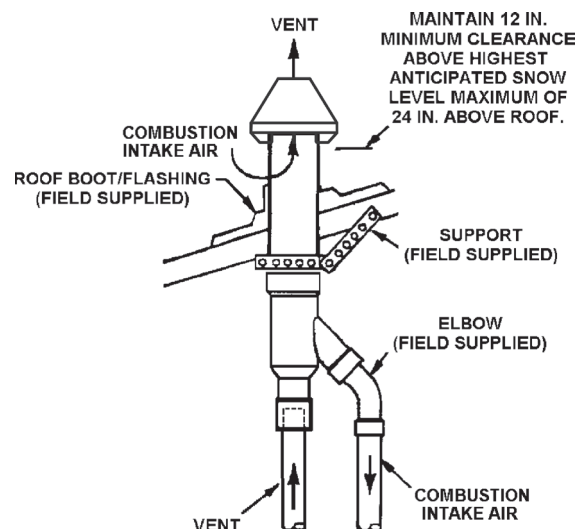

Figure 27
- Secure assembly to roof structure as shown in Figure 27 using field supplied metal strapping or equivalent support material.
NOTE: Ensure termination height is above the roof surface or anticipated snow level as shown in Figure 27.
- Cement water heater combustion air intake and vent pipes to concentric vent termination assembly. See Figure 27 for proper pipe attachment.